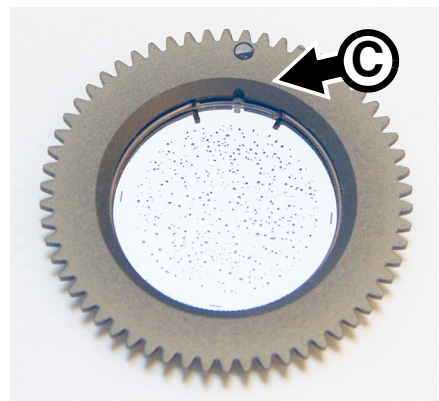
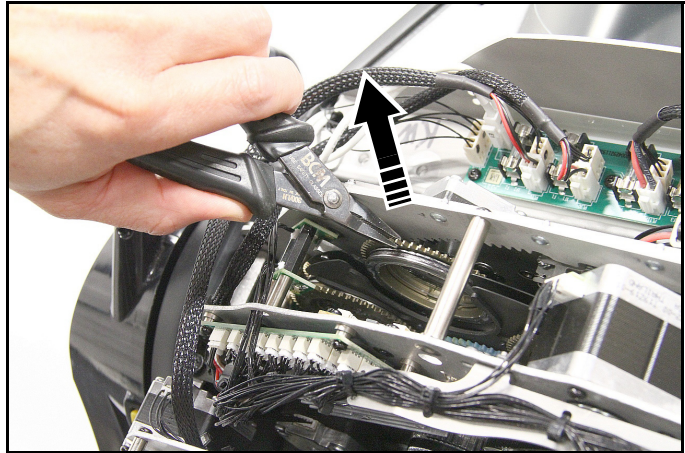

Figure 14: Goboholder reference mark
Figure 16: Removing a gobo from Gobo Wheel 2
2. With your fingers, rotate the gobo that you want to remove so that you line up a reference point (for example, the magnet and marking **C** shown in Figure 14) on the goboholder with a reference point in the module.
2. See Figure 16. With your fingers, rotate the gobo that you want to remove so that you line up a reference point (for example, the marking **C** shown in Figure 14 on page 23) on the goboholder with a reference point in the module.